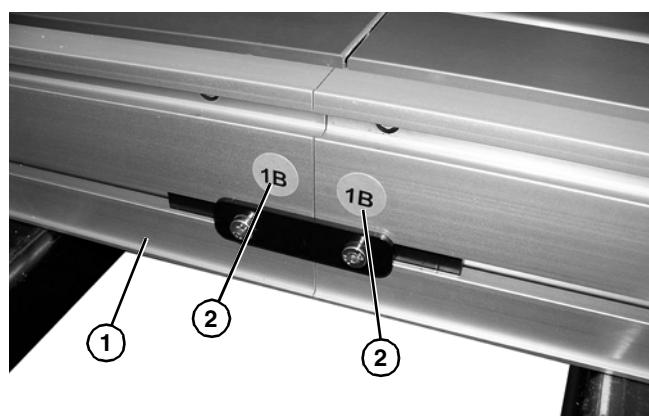

Figure 4
1. Locate and arrange conveyor sections by section labels (Figure 4, item 2).